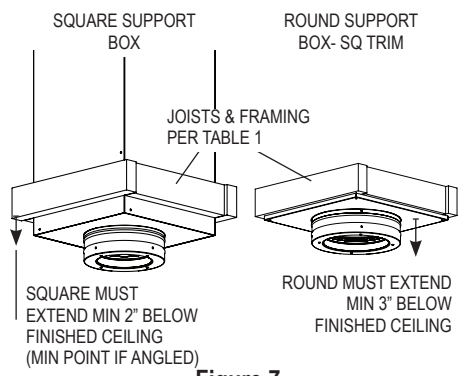

Figure 7
mark this center point on the ceiling. Refer to **Table 1** for specific framing and clearance dimensions. Mark appropriate cutting lines around the center point. Cut a square hole in the ceiling for the Support Box. Frame a level, square opening centered over the hole which you have cut. (**Fig.7 and 8**).
3. **Install Support Box:** For installation into a flat ceiling, there is the option of the Round Support Box (Round or Square Trim Collar), Flat Ceiling Support Box, Square Ceiling Support Box, or Reduced Clearance Support Box. The Flat Ceiling Support Box is primarily used for Oil Appliances and comes unpainted. For the Round support box, the trim mounts flush to the ceiling with the bottom protruding a min of 3" below the ceiling (**Fig.7**). For the Square support box, the square face must protrude a min of 2" below the ceiling (**Fig.7**). Level the Support Box and secure it to the framing using at least three 8-penny nails per side (min. of 12 total). Alternatively, you may use 1-1/2" #8 wood screws (min. of 12 total), instead of nails. After the Support Box is mounted, secure the Trim Collar (round or square) to the framing members using the (4) 1" long, round-head wood screws provided
(A) Support Box: For a Square Ceiling Support Box or Reduced Clearance Support Box, make sure that the square box portion of the Support Box can extend at least 2" below the low side of the finished ceiling (**Fig.7, 19**). The Support Box must remain level, and the top edge of the box must cover the edge of the roof's decking material. Mobile home chimney installations are roof supported.